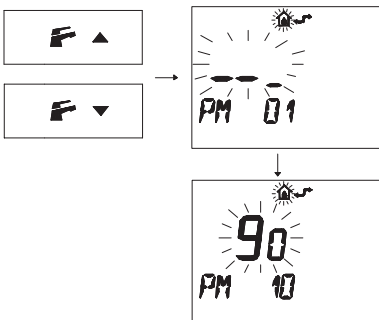

Fig. 7.41
- Press buttons or to display the "PM10" program for selecting the ignition frequency (Fig. 7.41).
In Fig. 7.41 a SET programmed at **90** is displayed corresponding to a re-ignition time of about 3 minutes.